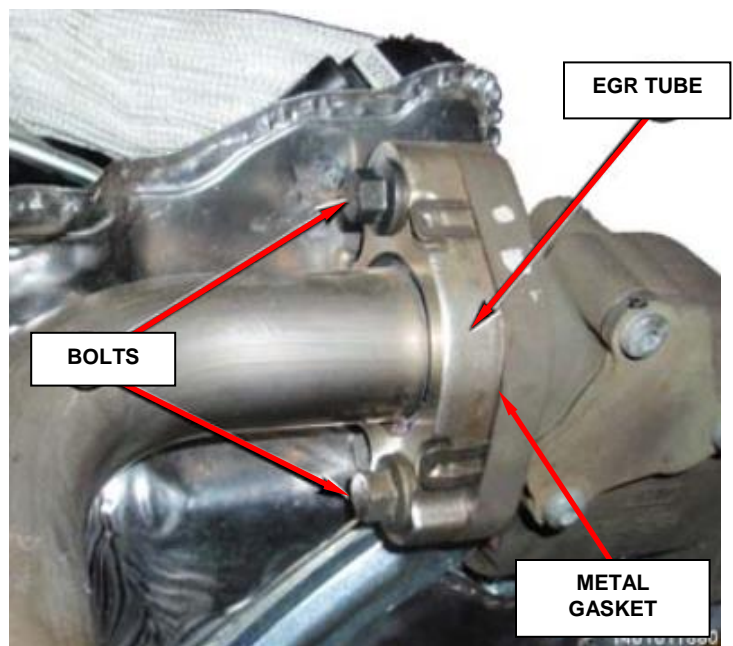

Figure 39 – EGR Tube
15. Remove the bolts and the tube from the EGR cooler (Figure 39).
24. Install the exhaust tube and **NEW** metal gasket and tighten the bolts to 25 N·m (18 ft. lbs.) (Figure 39).